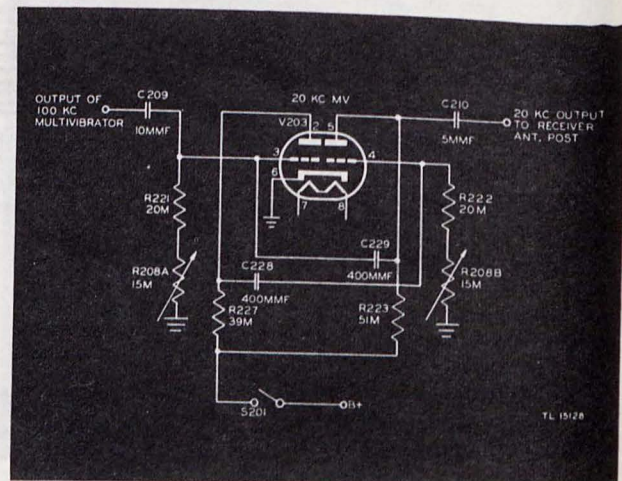

Figure 49. Radio Receiver BC-652-A, functional diagram of 20-kc multivibrator.
c. Multivibrator (20-kc). The 20-kc multivibrator (fig. 49) is fundamentally the same as the 100-kc multivibrator. The 20-kc frequency is determined by capacitors C229 and C228, and the grid resistors. Grid resistors R221 and R222 each have a variable resistor R208A and R208B, respectively, in series to adjust the circuit to the correct frequency. Plate voltage is applied through switch S201 and load resistors R227 and R223 to the two plates (pins 2 and 5). The output of the circuit is through capacitor C210 to the antenna post of the receiver. The 100-kc signal is fed to the receiver through capacitors C209, C229, and C210 when switch S201 is open. Switch S201 controls plate voltage to the 20-kc multivibrator. The filaments of the three tubes in this circuit are lighted when the receiver is turned on, keeping them hot for immediate use. The synchronized 100-kc signal is used to synchronize the 20-kc multivibrator. The frequency of the 20-kc multivibrator is one-fifth the frequency of the 100-kc multivibrator. Therefore, every fifth pulse of the 100-kc oscillator synchronizes the 20-kc oscillator. The fifth pulse occurs at the proper time to start conduction of grid (pin 3) of the 20-kc multivibrator. Since the 100-kc multivibrator is held in step by the 200-kc sine-wave oscillator, the interval between pulses is constant for both the 100-kc and 20-kc multivibrators.